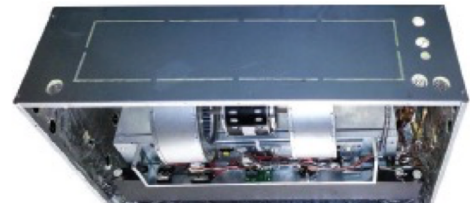

FIGURE 6.6
6.1.7. Reinstall the components removed prior to mounting the enclosure (Fig 6.6).